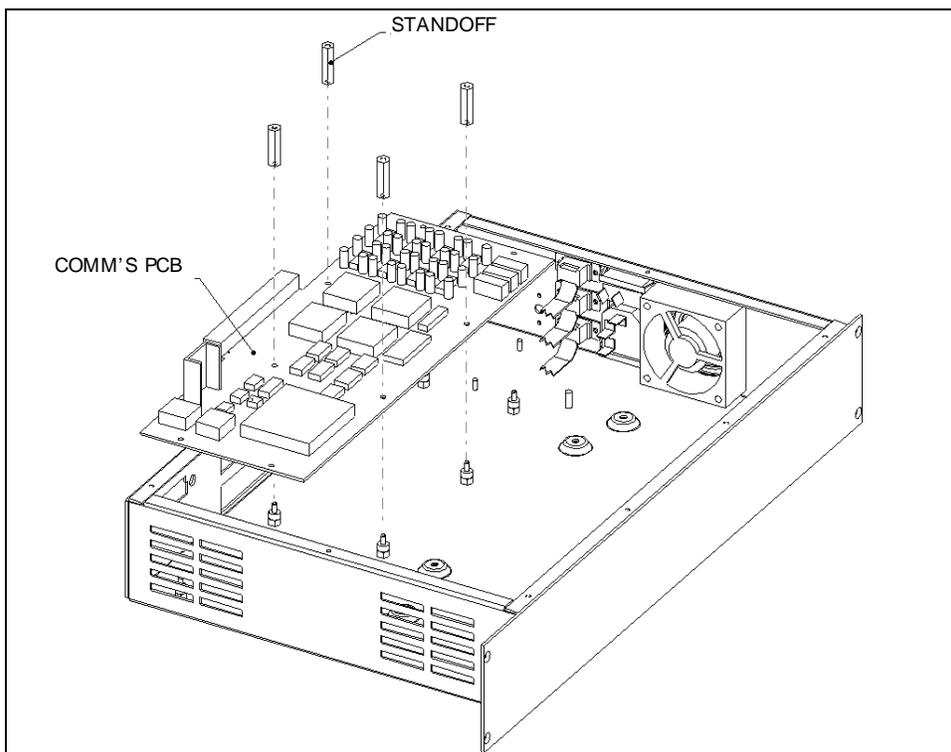

Figure 17-10 Removing the Communications Printed Circuit Board
- 2 Remove the four standoffs from the communications board as shown in Figure 17-10.